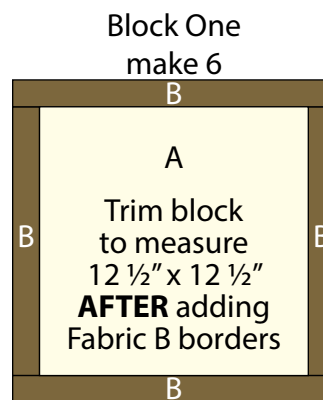

Fig. 28
24. Sew (1) 2" x 10 ½" Fabric B strip to each side of (1) 10 ½" Fabric A square. Sew (1) 2" x 13 ½" Fabric B strip to the top and to the bottom of the Fabric A square to make (1) Block One square (Fig. 28). **Trim the block to measure 12 ½" x 12 ½"**. Repeat to make (6) Block One squares total.